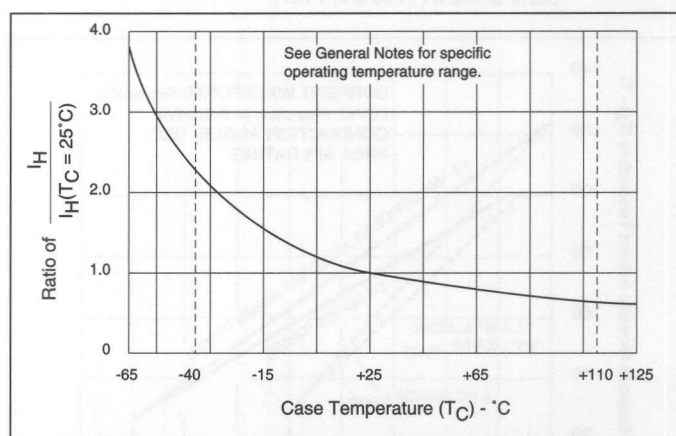

Figure 5.13 Normalized DC Holding Current vs Case Temperature
- See Figure 5.13 for I_H vs T_C .